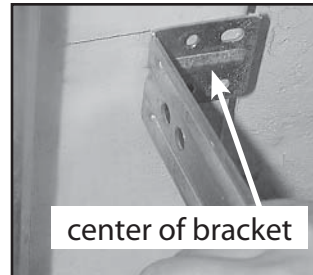

FIG. 4-2 Mounting brackets
- Locate top of bracket on your mark (Fig. 4-2).
- Fasten each with 2 screws (Fig. 4-2).